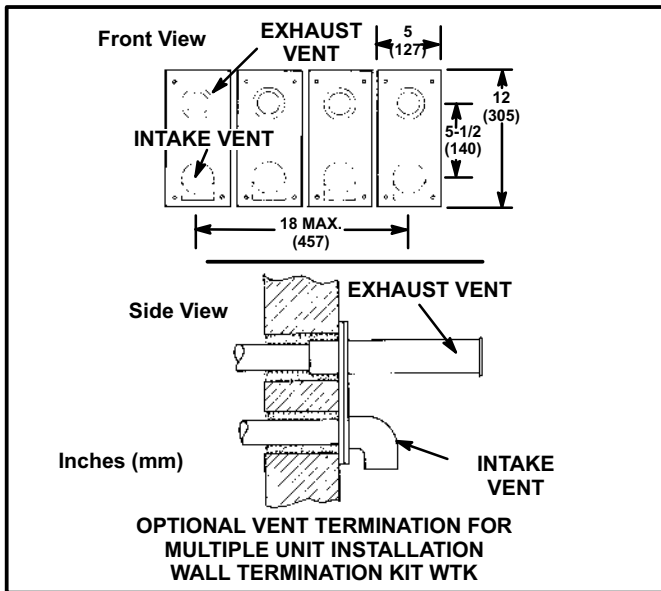

FIGURE 30
- 14- Based on the recommendation of the manufacturer, a multiple furnace installation may use a group of up to four termination kits WTK assembled together horizontally, as shown in figure 30.